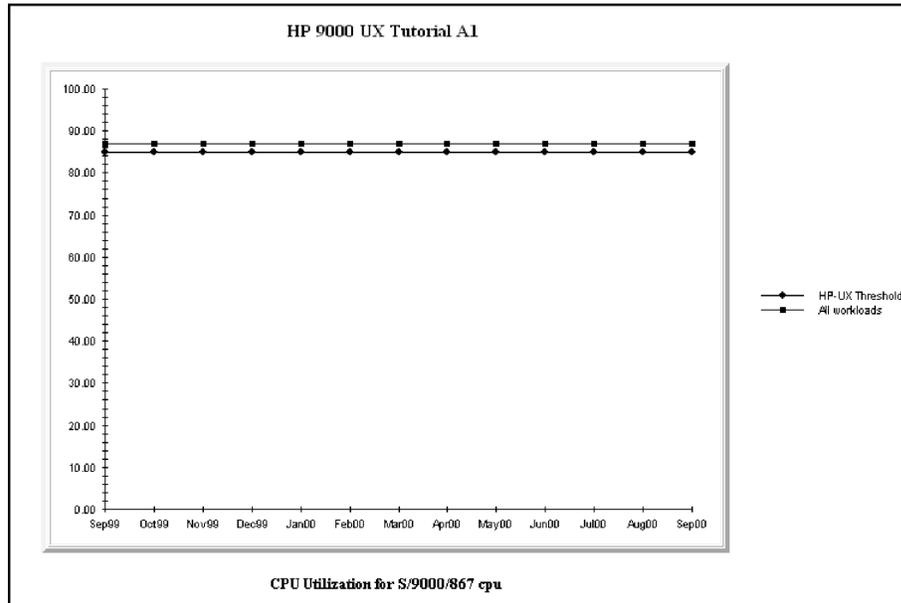

Figure 6.8 *Baseline graph for one CPU with zero growth rate*
- 14 On the **Forecast** menu, click **Graph Forecast**. The forecast graph displays (see Figure 6.8).
NOTE If the graph labels are overlapped, adjust the Font and Size parameters in the Graph Options dialog box from the Options menu (see "Fonts Options" on page 85 and "Sizes Options" on page 86). The graph in Figure 6.8 has the parameters listed in the following two tables: